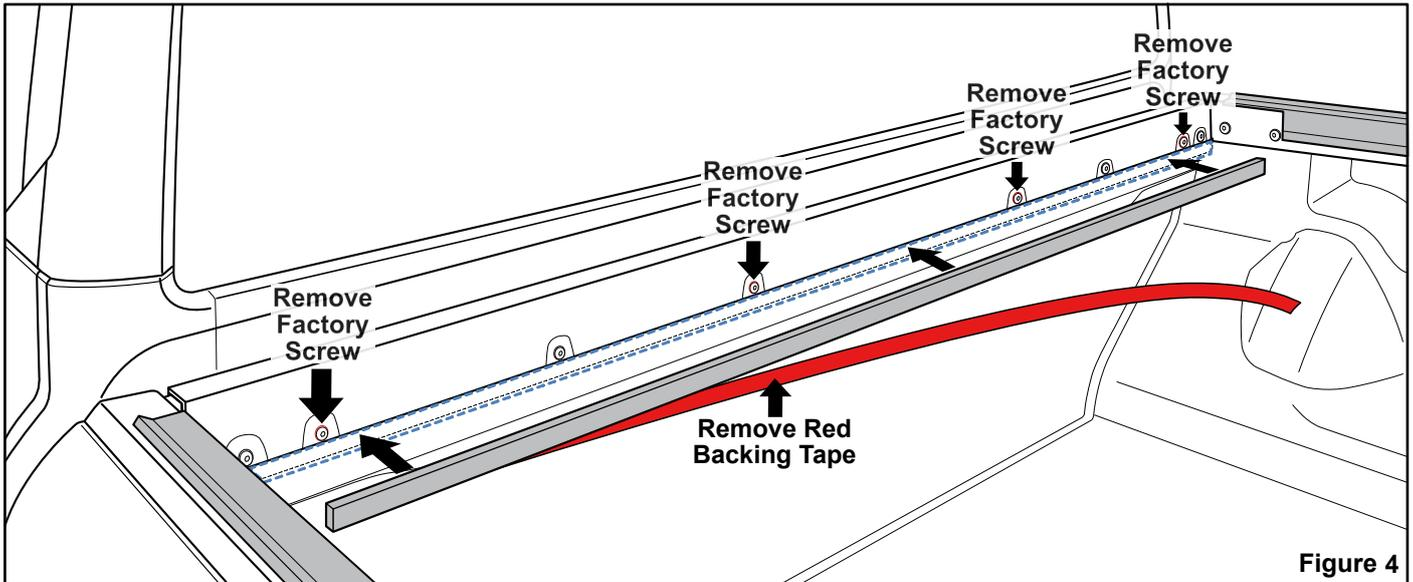

Figure 4
- Wipe the dotted section shown in Figure 4 with Surface Cleaning Alcohol Wipe.